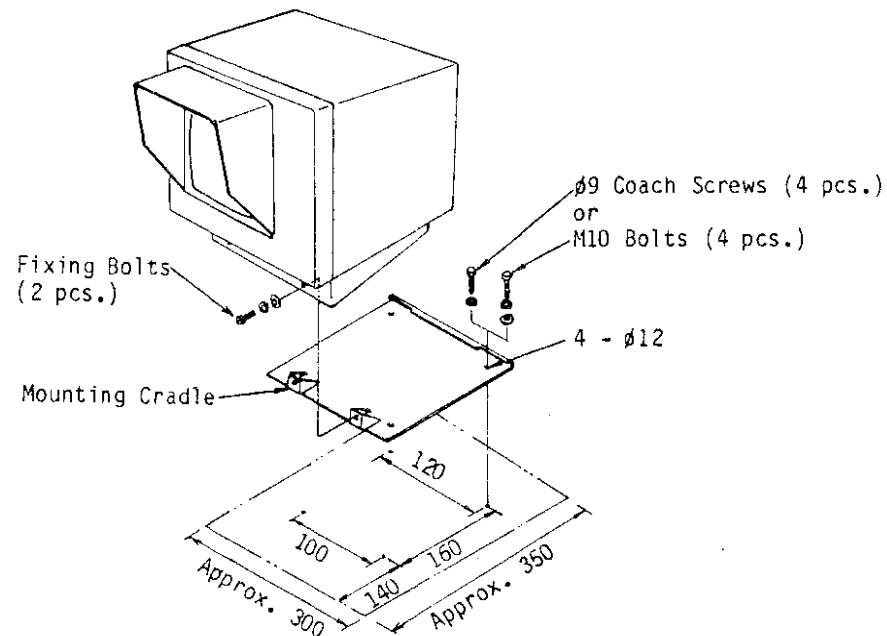

Fig.1-5 Display Unit Mounting
- 1) Remove the mounting cradle from the display main body by undoing two bolts at the front bottom of the display unit. See Fig.1-5.